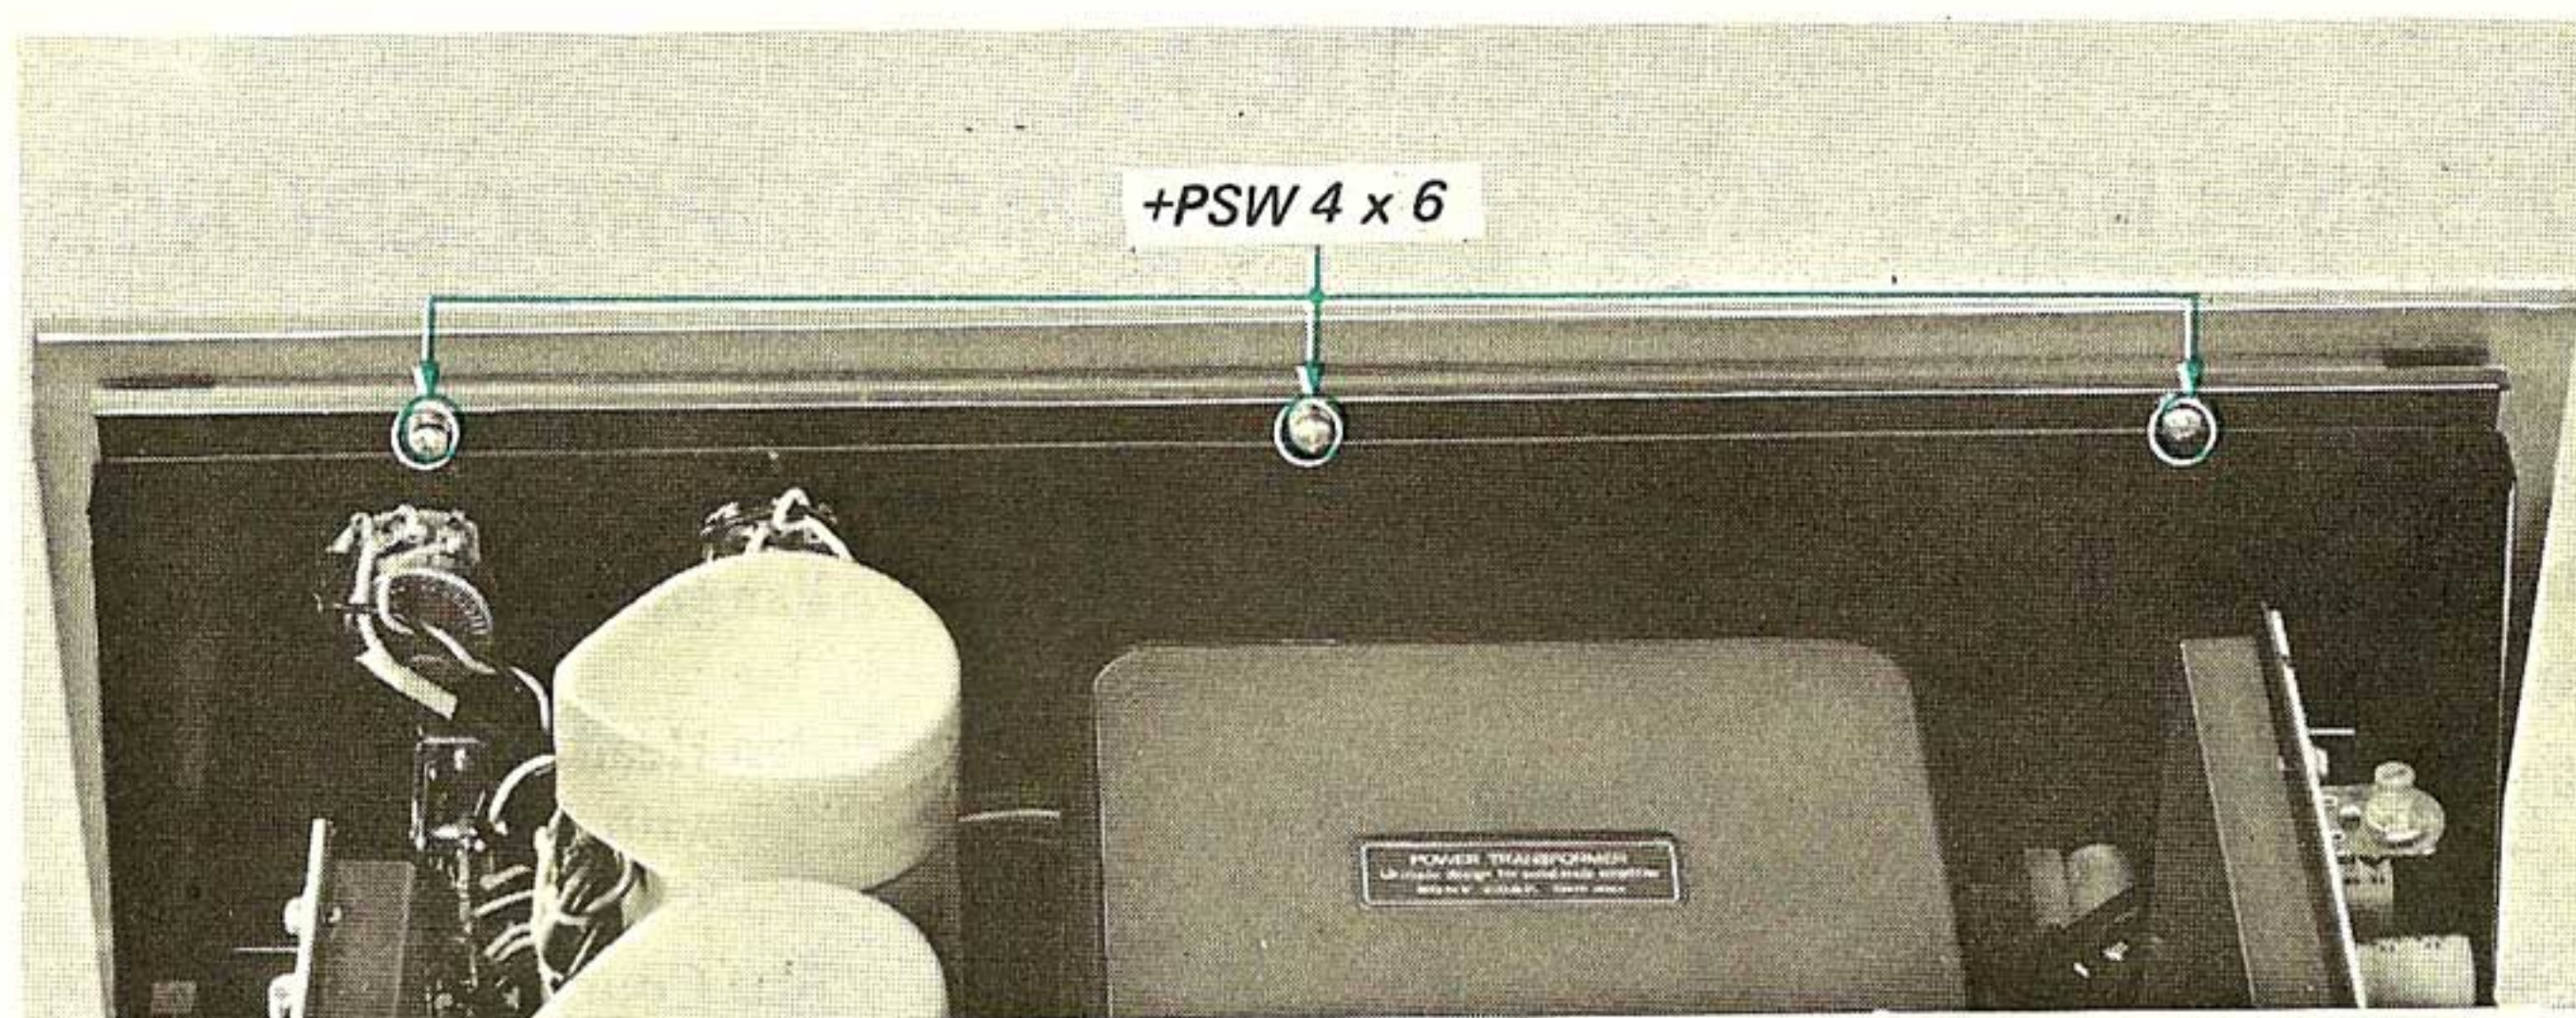

Fig 2-2 Front panel removal
3. Remove the three screws (* +PSW 4 X 6) securing the front panel to the chassis from the back as shown in Fig. 2-2.